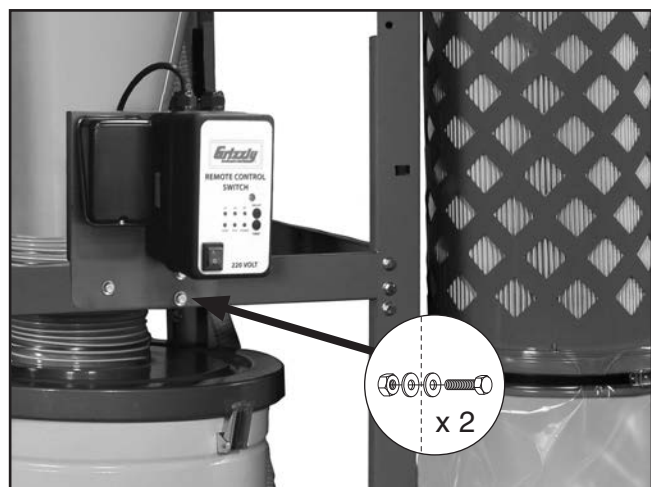

Figure 15. Switch bracket mounted to stand.
15. Mount switch bracket on the stand, as shown in **Figure 15**, with (2) $\frac{3}{8}$ "-16 x $\frac{3}{4}$ " hex bolts, (4) $\frac{3}{8}$ " flat washers, and (2) $\frac{3}{8}$ "-16 lock nuts.